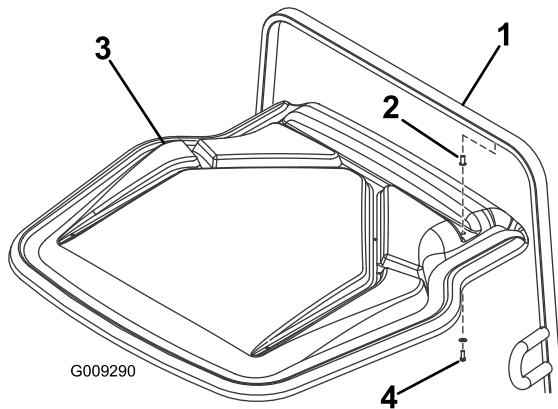

Figure 3
4. Mount the clinch nuts into the holes in the underside of the ROPS (Figure 3).
6. Secure the canopy to the ROPS frame with two bolts (3/8 x 1 inch) and two flat washers (3/8 inch) (Figure 3) in the clinch nuts installed previously.